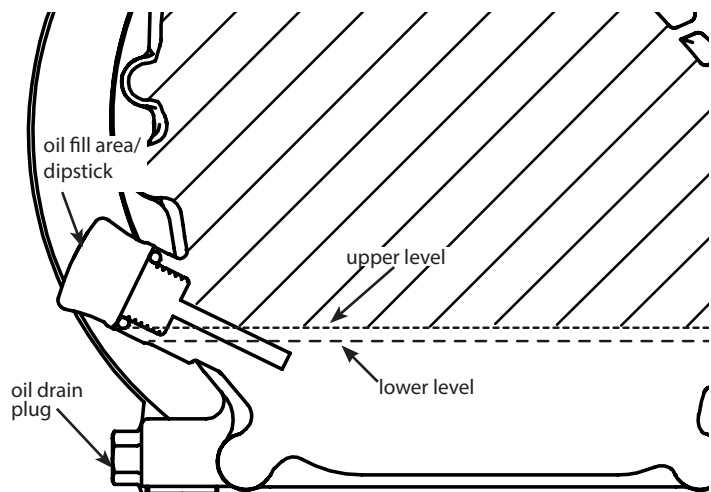

Figure 9: Filling and changing oil
2. Remove oil drain plug and empty oil into suitable oil container. Dispose of oil properly. **SEE FIGURE 9.**
3. Reinstall drain plug. Remove dipstick (if applicable) or oil fill cap. **SEE FIGURE 9.**
4. Fill with appropriate oil to "FULL" or top line of dipstick; otherwise to top thread of oil fill hole. **SEE FIGURE 9.**